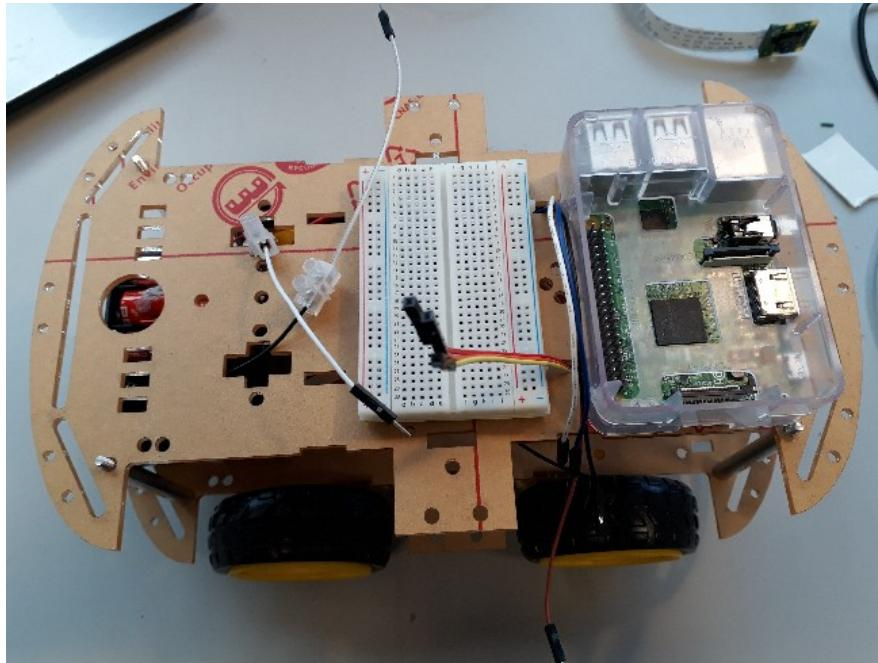

Figure 20: Top plate with all components attached in correct positions
Step 18: With the top plate in position, attach the remaining components (raspberry pi, breadboard) using the double-sided sticky pads. The components must be attached in the orientation shown in figure 20. **Note: Only use a 1cm² of sticky material, or it will be very hard to dissemble the buggy later on.**